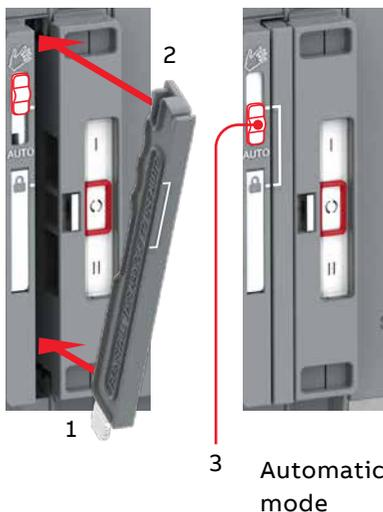

Fig. 3.6 The operating handle must set back to standby slot before moving to the automatic mode
- **Lock**-position = **Locking mode**, padlocking the automatic transfer switch in a specific position to prevent automatic and manual operation. Note! After the handle is set back to its place (standby slot), the slide switch will automatically move to the Locking mode and the switch is allowed to be padlocked. To set the operating handle back to its place, see the left picture in Fig. 3.6.